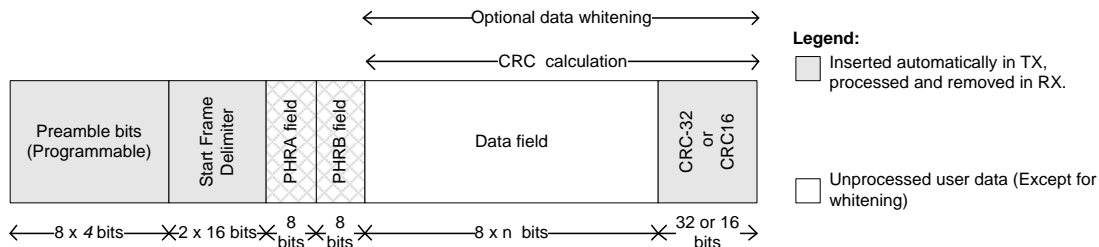
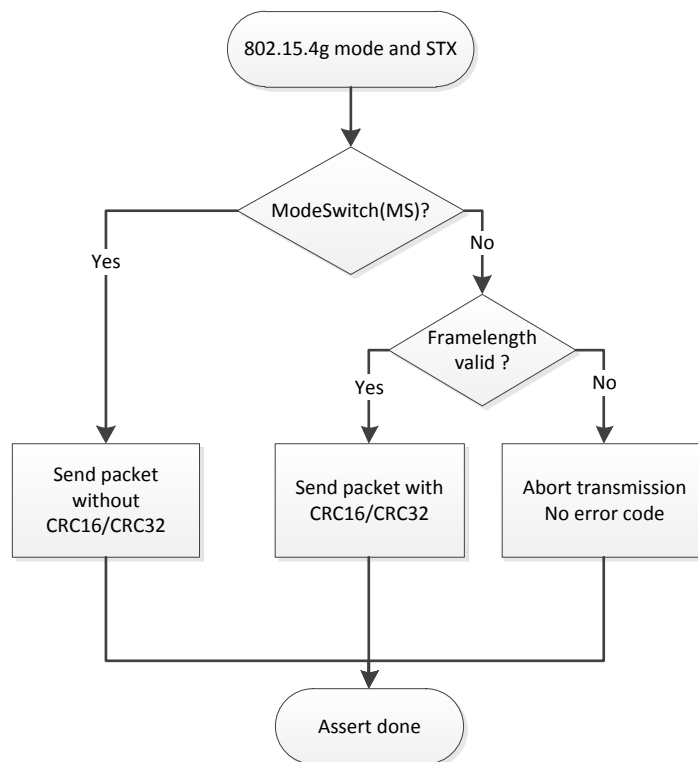

Figure 24: 802.15.4g Packet Format
Figure 27: Transmission Flow in 802.15.4g Mode
The format of the 802.15.4g packet format supported by the radio can be seen in Figure 24.
PHRA and PHRB in Figure 24 corresponds to PHR[15:8] and PHR[7:0] in the 802.15.4g standard [3] (see Figure 25 and Figure 26). The radio supports normal 802.15.4g packets (i.e. packets without MS (Mode Switch)). MS packets must be handled by software.
When transmitting an 802.15.4g packet the format must comply with the format shown in Figure 24. It is up to the application to write a correct PHR bytes and payload to the TXFIFO. The radio will check for Mode Switch (MS) and that the frame length is within the specifications before transmitting the packet. If MS is not set and the frame length complies with the standard the radio will check the Data Whitening (DW) bit field and the Frame Check Sequence (FCS) bit field and apply whitening and FCS according to the bit fields. The transmission flow is outlined in Figure 27.